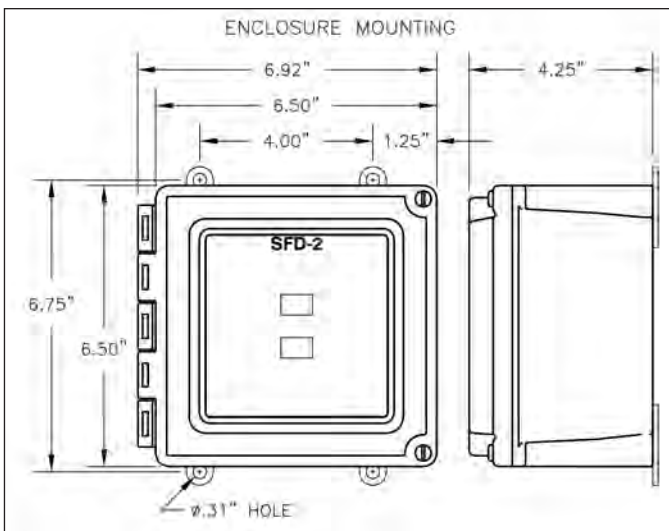

Figure 9
**Enclosure** - (See Figure 9) Locate the SFD-2 power supply/conditioner where the controls are accessible and the indicators can be seen. Position the enclosure for convenient conduit/cord connector access. Use the four mounting ears to mount the enclosure. Before altering the enclosure in any way, remove the internal PCB by removing the four corner screws. Carefully handle the PCB so not to damage components or to create an electrostatic discharge (ESD). Cut the necessary conduit/cord connector holes in enclosure wall with punch or hole saw. Use proper fittings to preserve the NEMA 4X integrity of the enclosure.